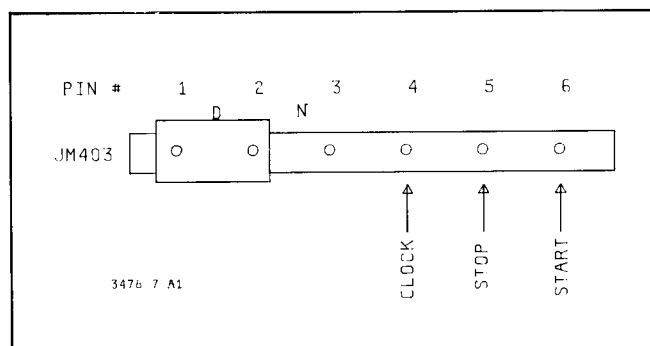

Figure 7-B-1. JM403 SA Connection
b. Move jumpers JM502, JM503, and JM403 to the "D" position (JM403 pin 1 and 2), as shown in Figure 7-B-1.
c. Obtain a Signature Analyzer. Set and connect as follows (shown in Figure 7-B-1):